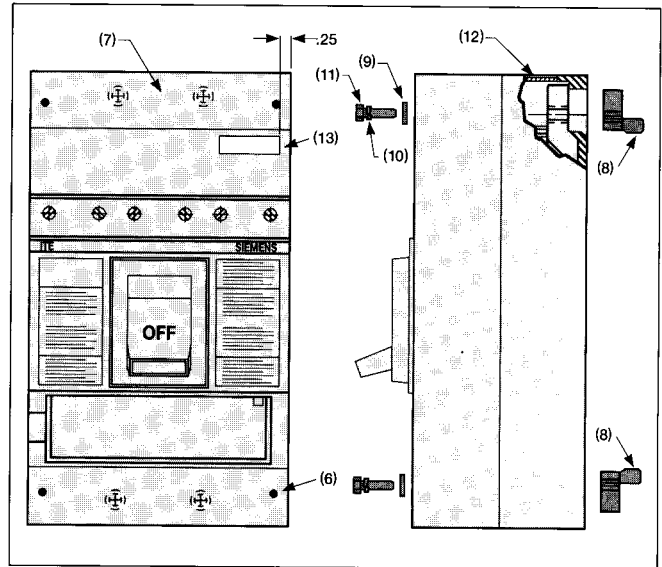

Figure 4
Breaker Preparation: Figure 4
- Loosen four breaker terminal shield screws (6) and remove both line and load side terminal shields (7).
- Place terminal stabs (8) on back of breaker in recess provided in base molding. Secure in place with $\frac{5}{16}$ " flat washers (9), lock washers (10) and $\frac{5}{16}$ - 18 hex. head bolts (11) furnished. Tighten these bolts to 96 in. lbs. (8 ft.lbs.) to assure a good electrical connection. Repeat this procedure for the remaining terminals.
- Insert end shields (12) into slots provided at line and load ends of breaker.
- Affix label (13) to front of circuit breaker as shown in Figure 4.